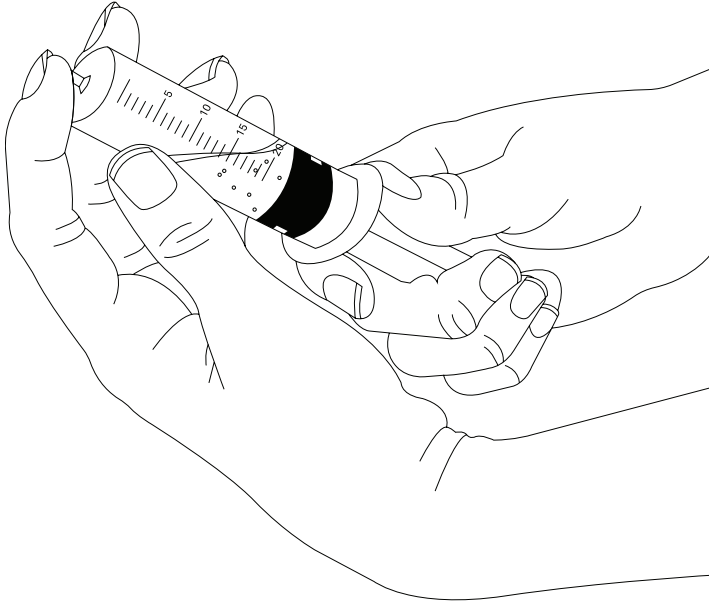

Figure 17 Collecting air bubbles
6. Shake and turn the reservoir syringe to collect the air bubbles appearing at the inner surface of the syringe Figure 17.
- Push the tube piece on the tip of the syringe (Figure 17).